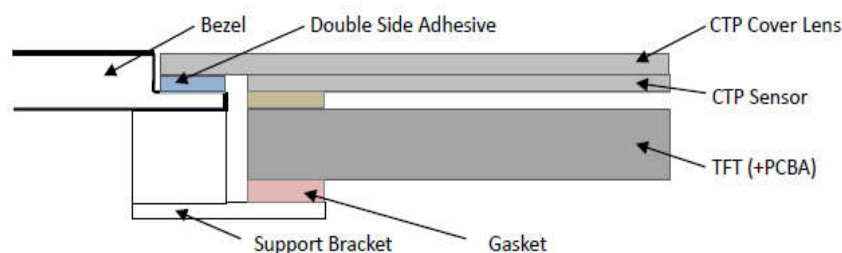

Figure 2
Active area is divided into 9 measuring areas (Refer Fig. 2). Every measuring point is placed at the center of each measuring area.
9.2 Surface Mounting (Figure 2)
9.2 嵌入安装（附图 2）